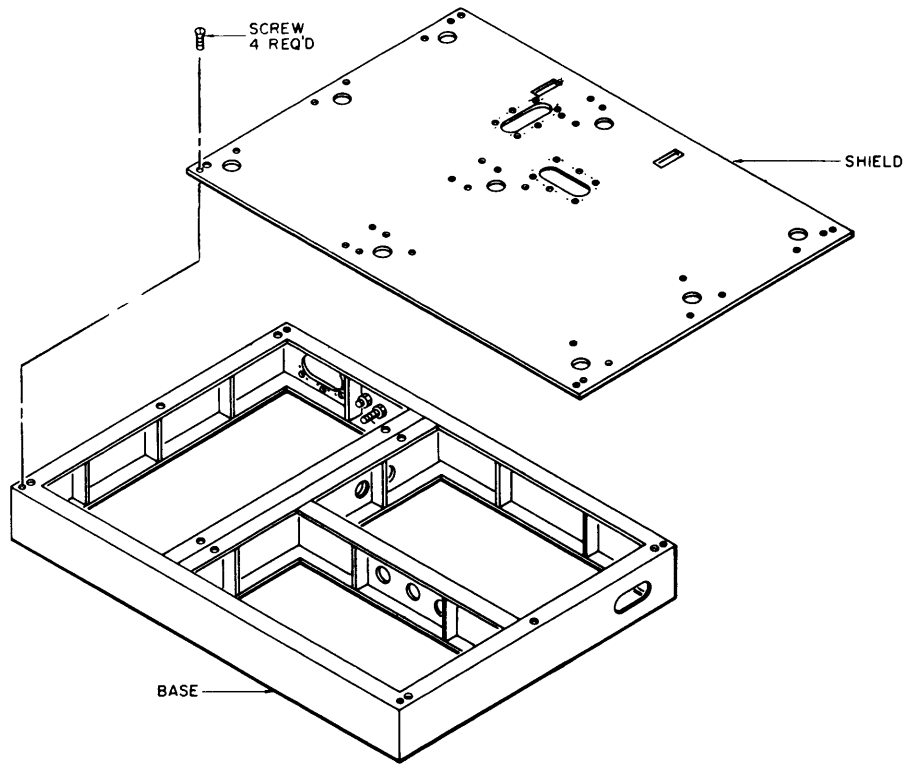

Figure 2-4. Base Assembly for the First and Second Frames, Installation Diagram.
- b. Remove shield from base assembly, figure 2-4, for the first and second frames. Shield will be replaced later.
a. Properly position shield, figure 2-4, on base assembly for first and second frames.